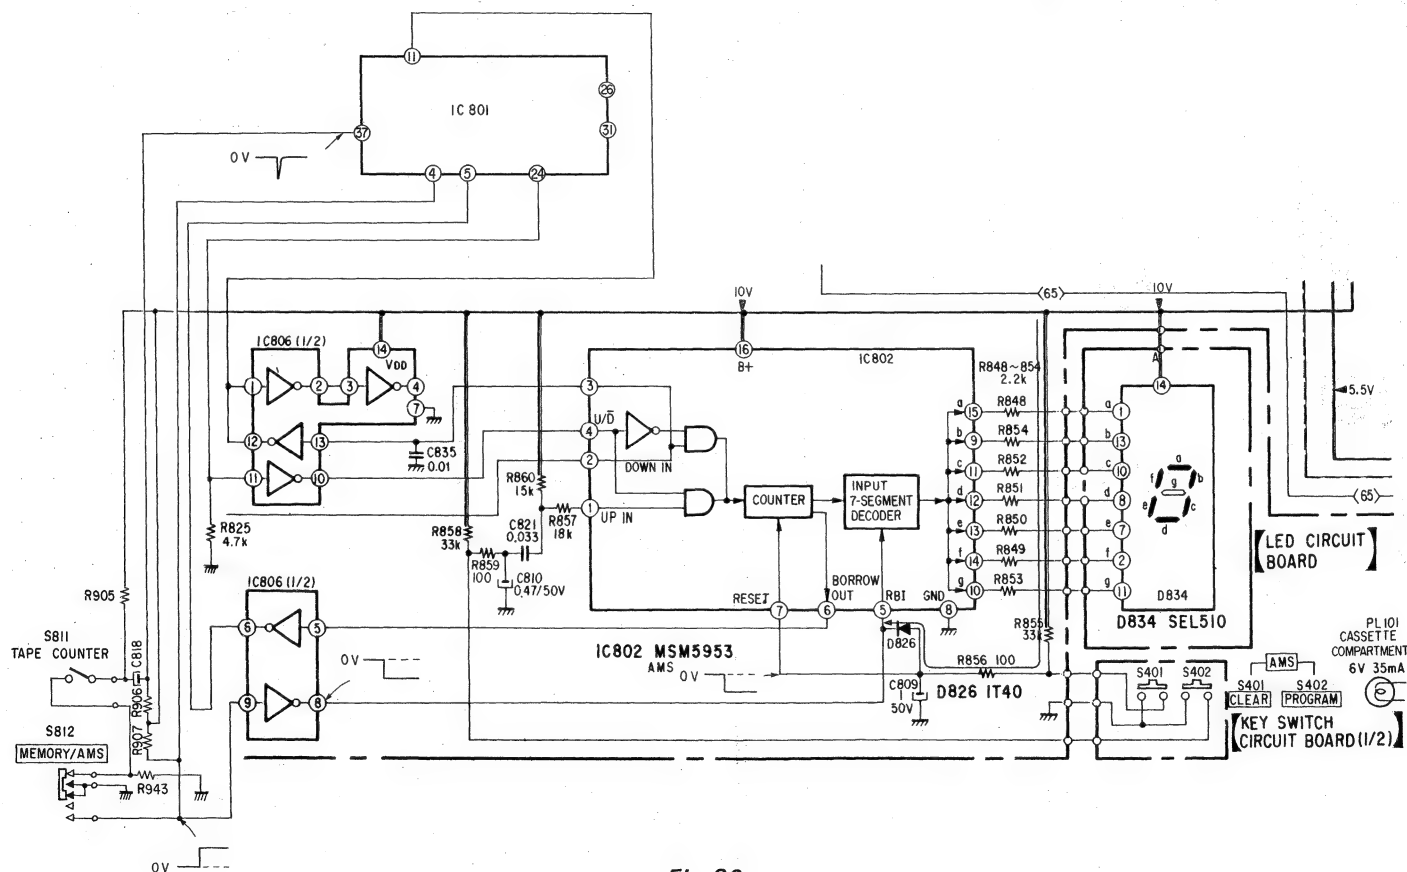

Fig. 26
2. When MEMORY/AMS switch (S812) is placed at MEMORY (See Fig. 26)